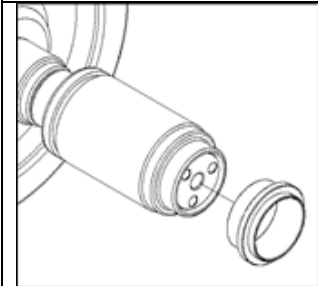

Figure 22 – Adaptor Ring Positioning
- 5.3.5 Place the Installing Tube Adaptor Ring in position against the outer seal wear ring. The Installing Tube Adaptor Ring must be properly positioned on the Guide Tube to receive the installing Tube (Figure 22).